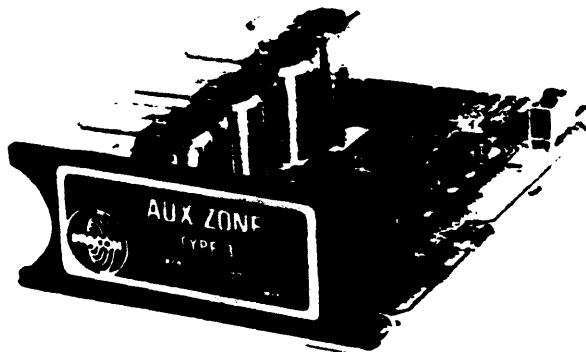

Fig. 14—Type 3 Auxiliary Zone Card
3.44 The Type 3 Auxiliary Zone Card (Fig. 14) provides one *music-only* and three standard zones. Loudspeakers connected to the music-only zone will be excluded from all paging. Uninterrupted music to this zone can be provided if the system is equipped with an external music amplifier.